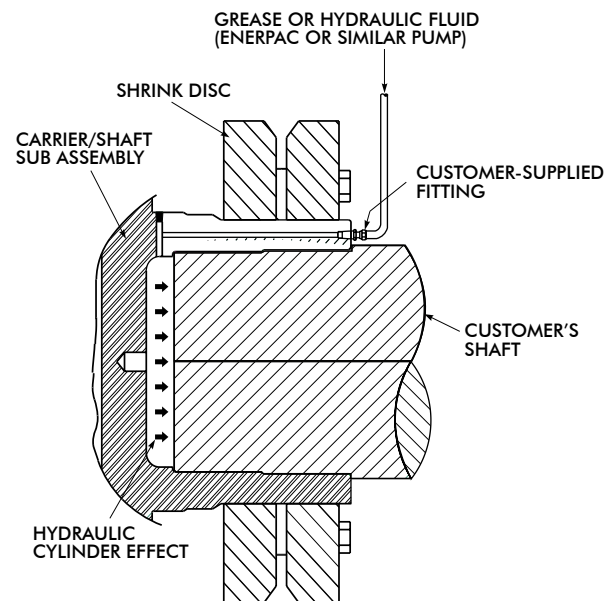

Figure 6.1
- 3.) Utilize "hydraulic advantage" by accessing ports (1/8-27 NPT) located on hollow shaft face, and on outer diameter of hollow shaft (Figure 6.1).